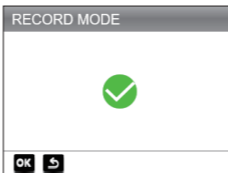

Figure 8.1.5
4. To change the Record Mode's setting (See Figure 8.1.5), select Record Mode and Press [OK]. The Record Mode is on by default, but you can turn it off by pressing [OK] again.